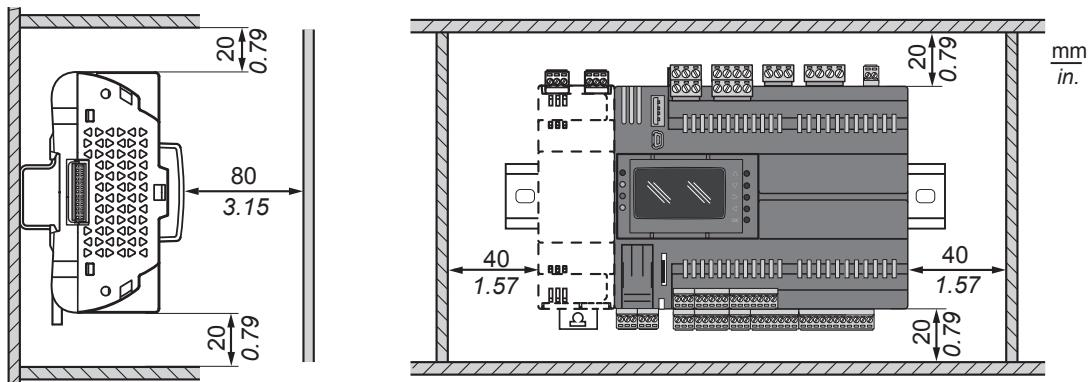

Fig. 6. Distances
The **EWCM 9000 PRO (HF) CO2 compressor rack controller** was designed as a class IP20 product and must be installed in a casing. Comply with the indicated distances when installing the product (see Fig. 6 on page 23).